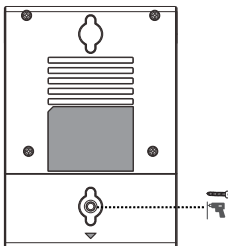

Figure 2
1. Close the back cover of the device after plugging in the cable, and punch the PA3\*8mm Screw into the hole in the back cover (Figure 2)